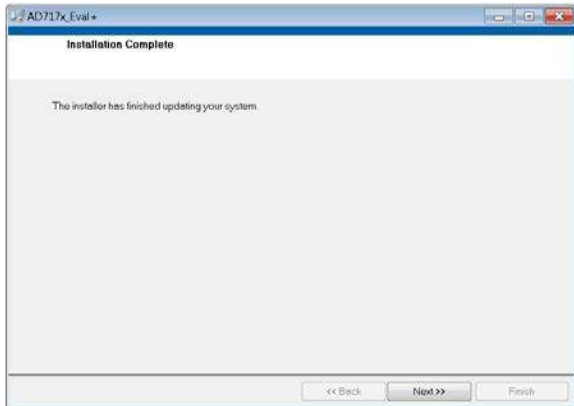

Figure 10. AD7176x Eval+ Installation Complete
- The message in Figure 10 appears when the installation is complete. Click **Next** to continue.